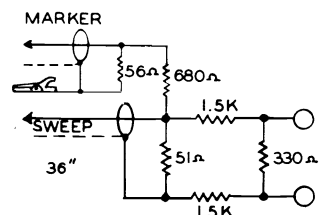

Fig. 7 VHF ISOLATION NETWORK
3. Attach the sweep generator at the VHF tuner antenna terminals, using VHF isolation network. See figure 7.
20. Increase bias voltage to -4.5 volts and adjust the oscilloscope so that 2 inches of vertical deflection is equivalent to approximately 2 volts P-P output. Adjust output of signal generator until a 2 volt P-P indication is obtained on the 'scope. Response curve and marker positions should conform to Fig. 7.
- CAUTION – No attempt should be made to improve a response curve which conforms to that shown in Fig. 7. Minor deviations may be corrected by slight touch-up of specific coils to make response conform to Fig. 7, as indicated below: